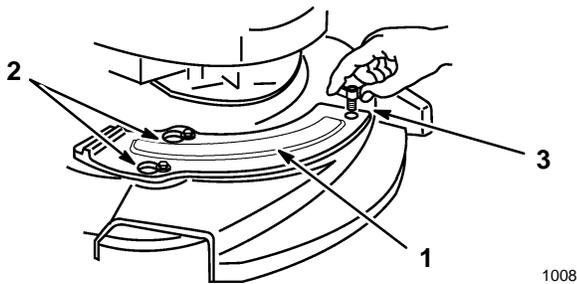

Figure 44
6. Slide the mulch plate over the shoulder bolts (Fig. 44).
8. Secure the mulch plate with the wing screw (Fig. 44).